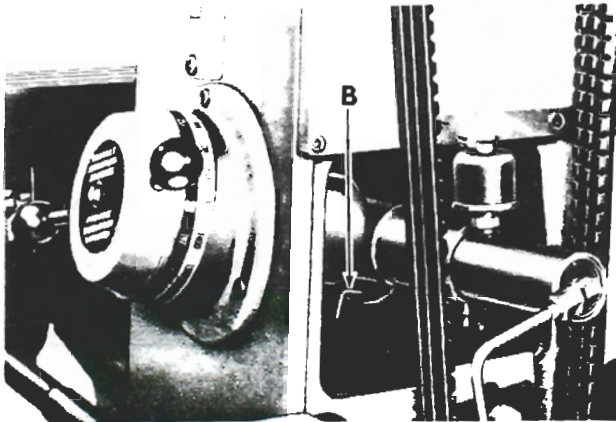

Figure 4
4. Lock dial in low speed position with pin (B, fig. 4).